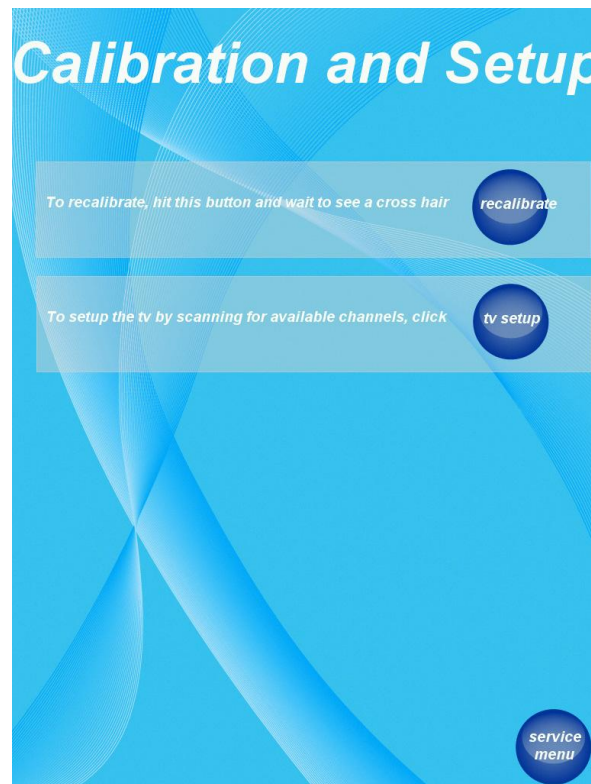

Fig. 1
- II. If you can access the service menu using the touch screen, select the button that says “recalibrate” while in the “Calibration and Setup” menu (Fig.1) to start the touch screen calibration process.